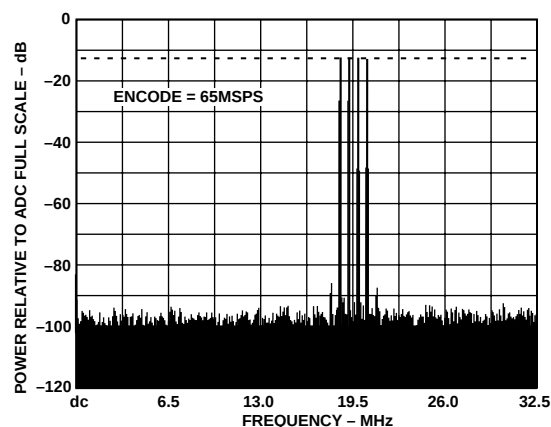

Figure 47. Multitone Performance
One of the biggest challenges is selecting the amplifier used to drive the AD6640. Since this is a communications application, it is common to directly sample an intermediate frequency (IF) signal. As such, IF gain blocks can be implemented instead of baseband op amps. For these gain block amplifiers, the critical specifications are third order intercept point and noise figure. A bandpass filter will remove harmonics generated within the amplifier, but intermods should be better than the performance of the A/D converter. In the case of the AD6640, amplifier intermods must be better than  $-80$  dBFS when driving full-scale power. As mentioned earlier, there are several amplifiers to choose from and the specifications depend on the end application. Figure 47 shows a typical multitone test.